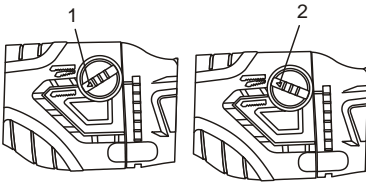

Fig. 3
To operate the saw in conventional cutting mode, rotate the orbital control knob (1) counter clockwise (Fig. 3). To operate the saw in orbital cutting mode, rotate the orbital control knob clockwise (2).
4. Set the orbital control knob to either conventional or orbital cutting to produce the desired cutting effect (Fig. 3).
3. Set the orbital control knob to conventional cutting (Fig. 3).
Set the orbital control knob to conventional cutting (Fig. 3).